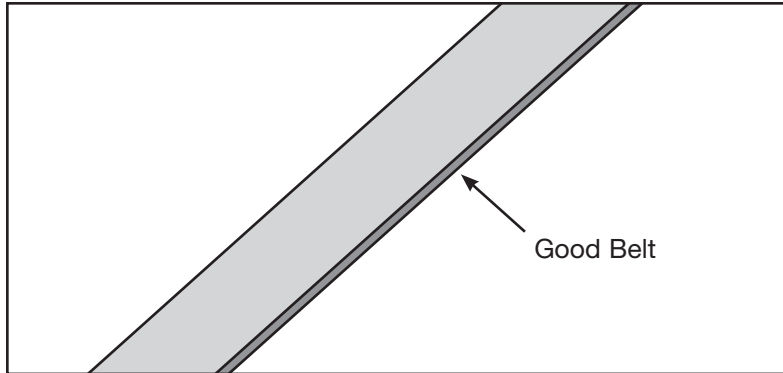

Figure 13
- A.** Rotate each belt by slowly turning pulleys backwards. **NOTE:** Be careful to not pinch your fingers between belts and pulleys. Examine the condition of each belt. If a belt has cracks or appears worn, it must be replaced immediately by a qualified service technician. See Figures 13, 14 and 15.